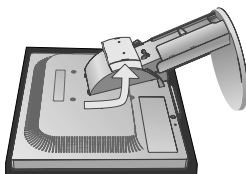

Figure S.3
5. Remove the stand having three hooks toward direction (Figure S.3).